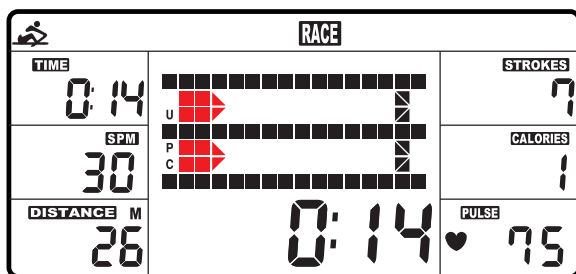
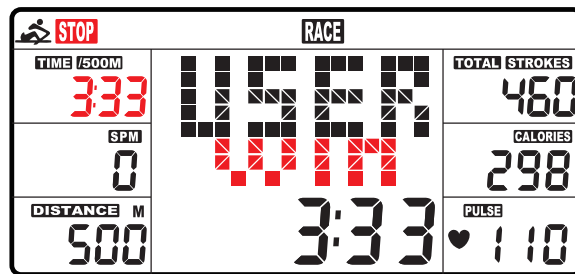

Fig. 6
Fig. 7
A. Press START button to start and STOP will disappear. USER and PC will display in the matrix (Fig.6). The computer will stop when either user or computer has reached the race distance that was set. Then the matrix displays “PC WIN” or “USER WIN” (Fig.7).